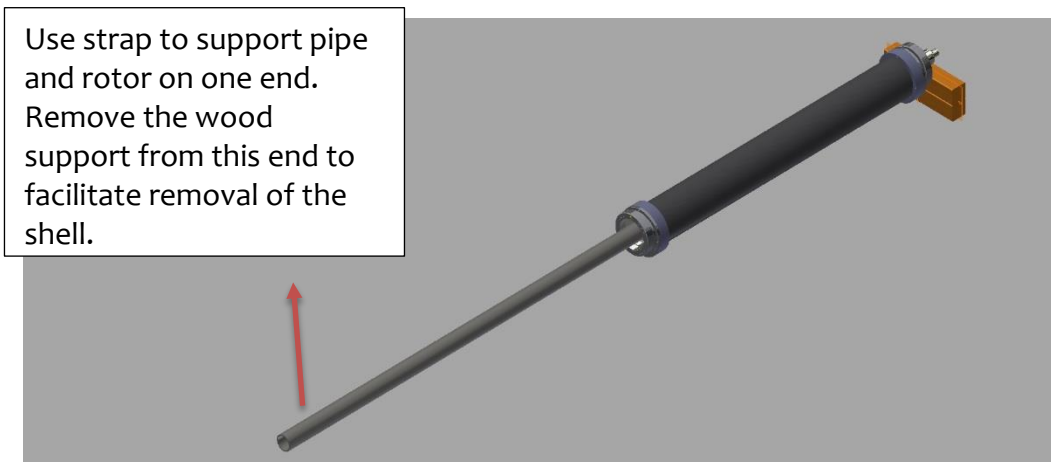

Figure 17
12. After the four (4) socket head cap screws are removed from each bearing mount / bearing hub assembly, use a 3" ID pipe that is at least 2 feet longer than the length of the carbon fiber shell to cantilever the rotor by securing a strap on one end. See **Figure 17**. Exercise caution when lifting the end of the rotor with the pipe to make sure the other end of the rotor shaft does not roll off the wood support.